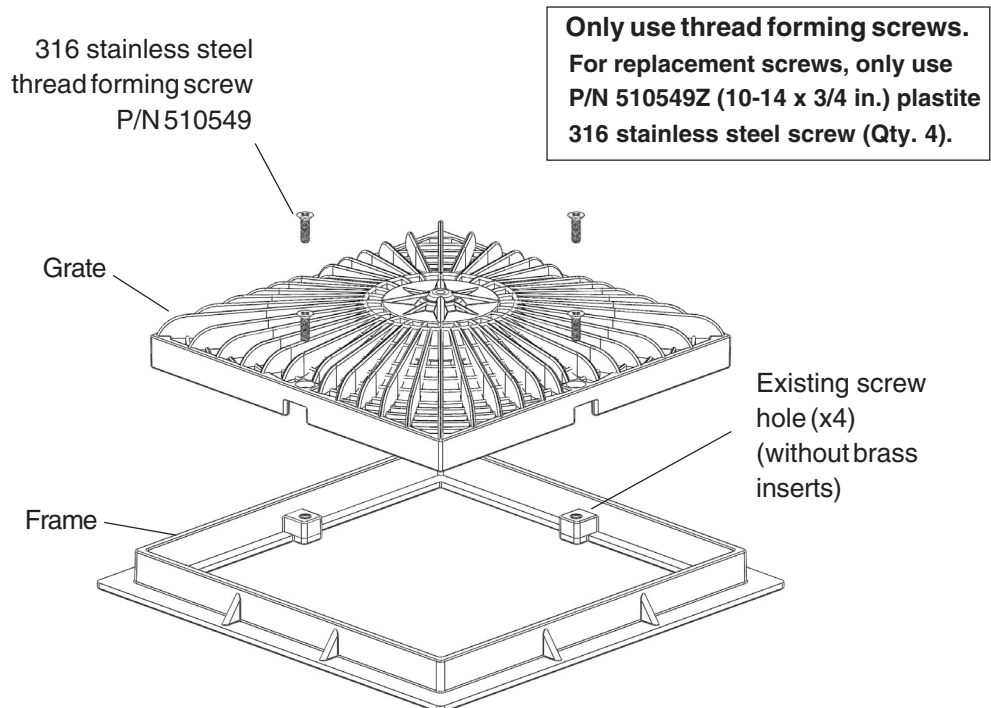

Figure 3
- Seat the drain grate inside the frame on top of the suction outlet (see Figure 3).
- Install the four (4) 316 stainless steel 10-14 thread forming screws (provided) into the holes in the top of the grate. Using a No. 2 Philips head screwdriver, tighten each retaining screw to a **torque value of 10.00 (minimum) to 15.0 (maximum) in-lbs** to secure the grate. DO NOT OVER TIGHTEN THE SCREWS. DO NOT ASSEMBLE WITH POWER TOOLS.